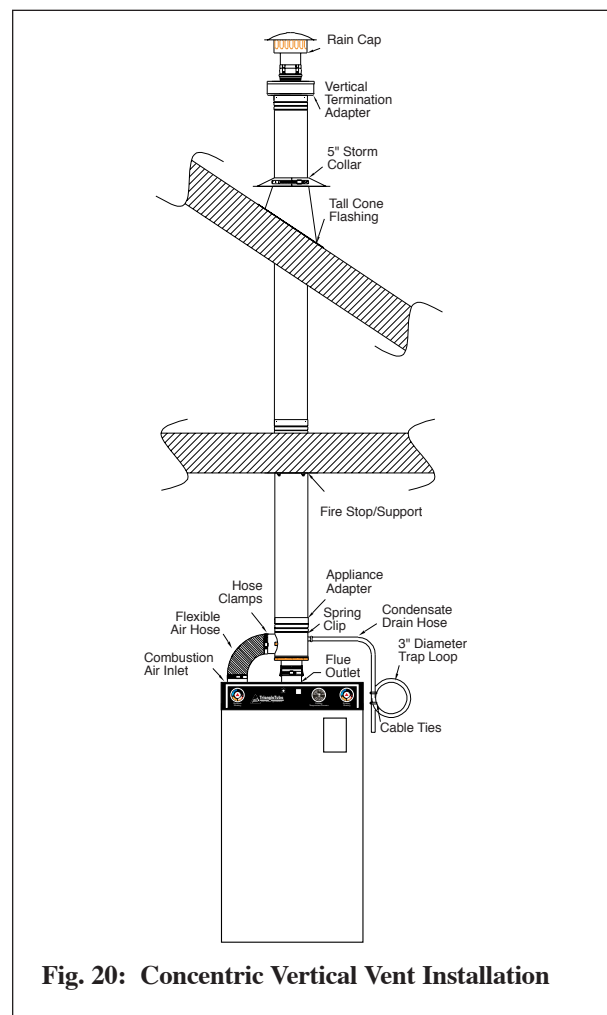

Fig. 20: Concentric Vertical Vent Installation
- a. The vent system should contain a condensate trap located near the unit as shown in Fig. 20, page 35.